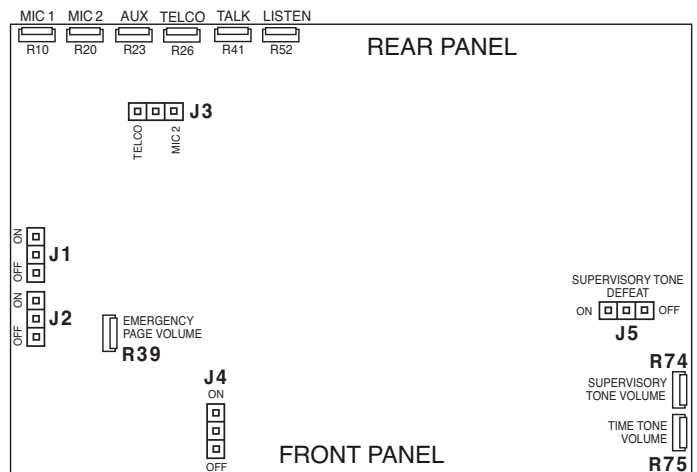

Figure 2 – Jumper Locations on MCP35A Card
4. Move the shunt on J4 to the OFF position to disable the monitor speaker muting feature when the MIC 1 push button is selected (see Fig. 2).
Note: J1 should be in the OFF position when the console mic is connected to the MIC 1 input (see Fig. 2).